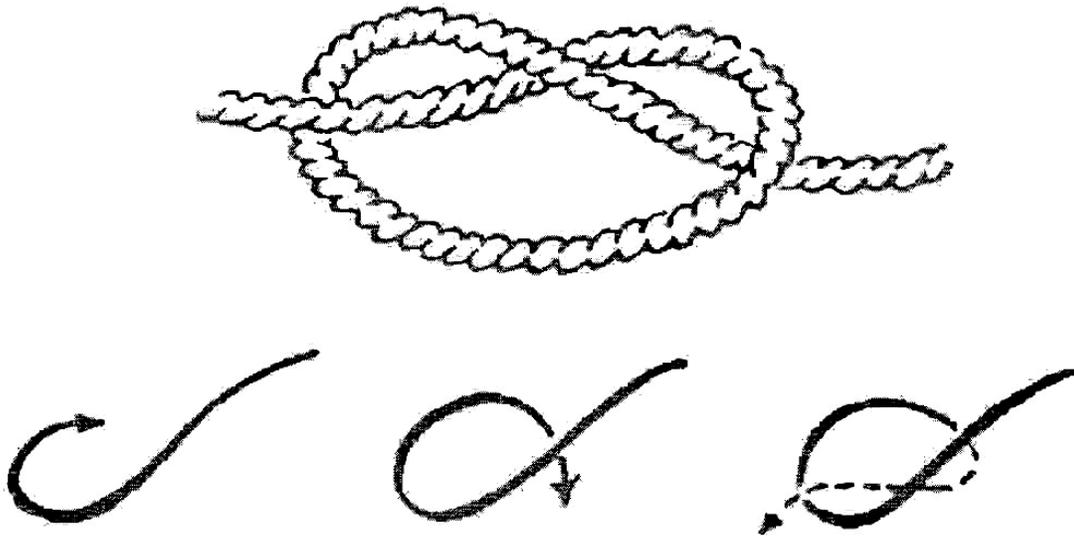

Figure 3-78
4. Tie an overhand knot (see Figure 3-78).